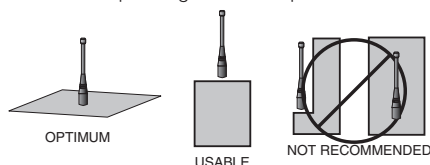

Figure 32: Ground Plane Orientation
2. Optimum performance is obtained from a $\frac{1}{4}$ - or $\frac{1}{2}$ -wave straight whip mounted at a right angle to the ground plane (Figure 32). In many cases, this isn't desirable for practical or ergonomic reasons, thus, an alternative antenna style such as a helical, loop or patch may be utilized and the corresponding sacrifice in performance accepted.